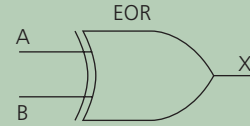

Figure Q4
b. Figure Q4 shows an EOR gate.